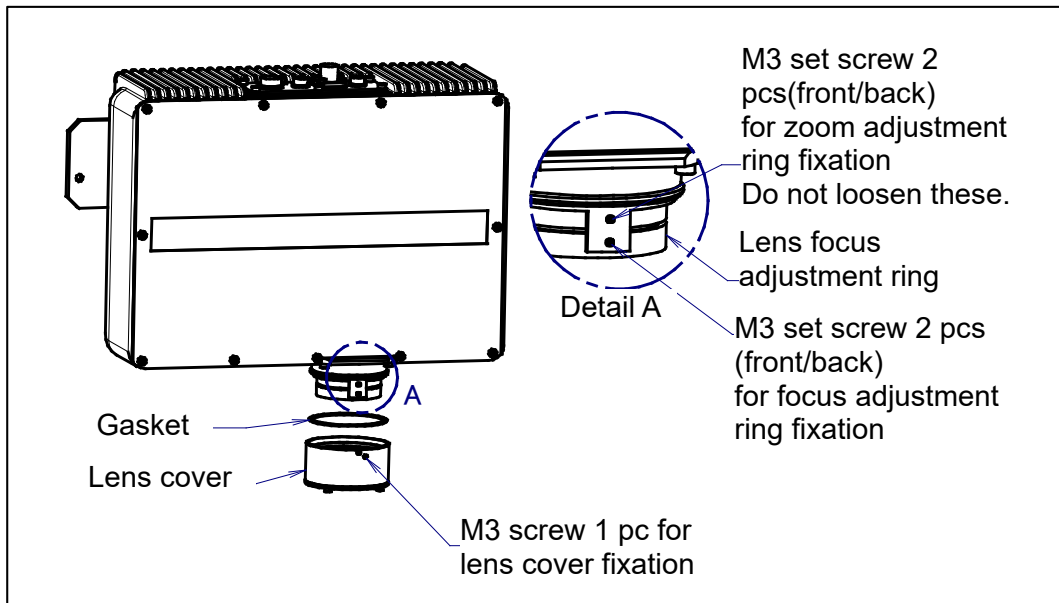

Fig.6.4.1 (a) Adjusting focus of the projector
- 2 Loosen M3 set screws for lens cover fixation. (See Fig. 6.4.1 (a).)